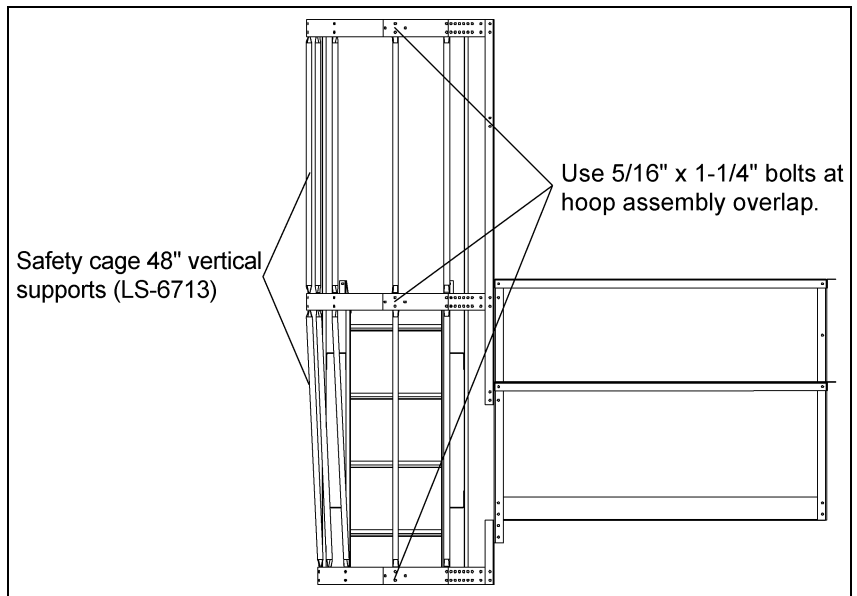

Figure 7N Vertical Supports
After all three (3) hoop assemblies are in place, attach the 48" vertical supports from hoop assembly to hoop assembly, as shown in Figure 7N. This requires ten (10) supports, five (5) between each set of hoops. The second set of vertical supports must be bent at the flat area to allow for the tapering of the bottom hoop assembly. Use 5/16" x 3/4" bolts (unless otherwise noted) with the head of the bolt to the inside of the safety cage.